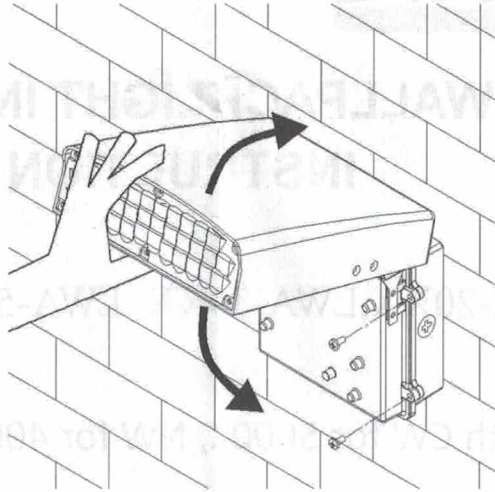

FIG.3
4. Close fixture and tighten the 2 screws. See figure 3.